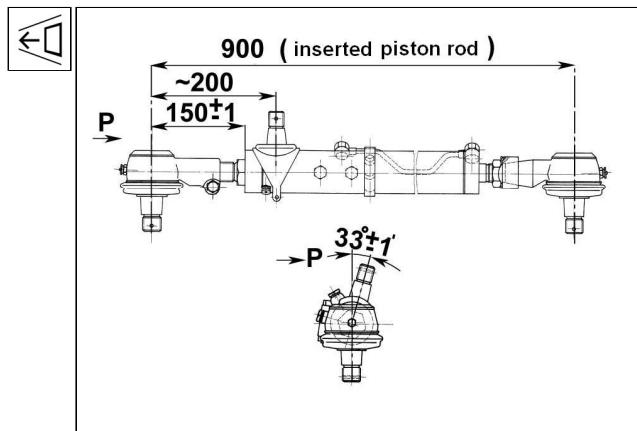

Fig. 10.47 Position of the ball joint head on booster
2. Adjust the position ( $33^\circ \pm 1^\circ$ ) and length of ball joint as per values mentioned in: (See Fig. 10.47).
2. Adjust the length of steering booster with joints with the piston rod retracted (**900 mm**), as per: (See Fig. 10.47).